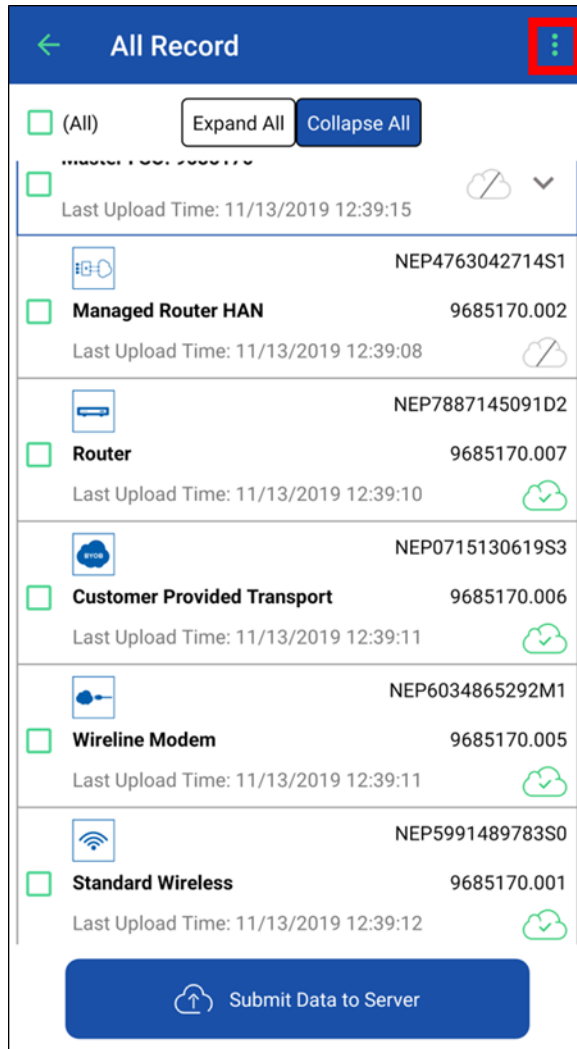

Figure 101: All Records page
1. Tap the Records icon in the bottom toolbar of the OASIS homepage, as shown in Figure 101.